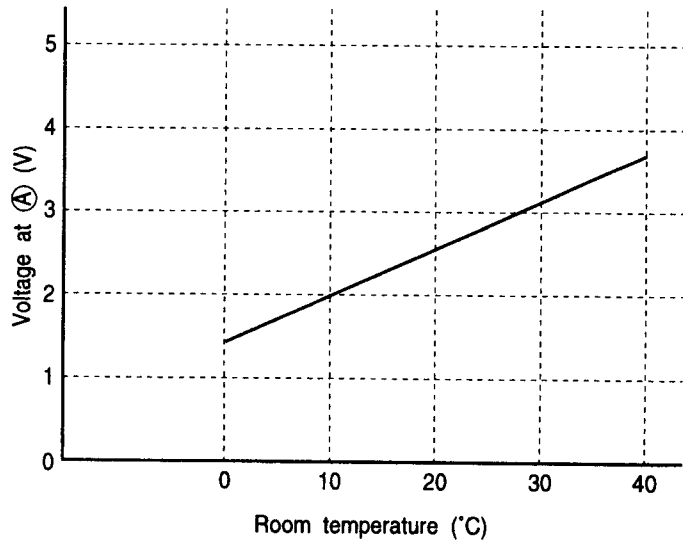

Fig. 6-2
The voltage at (A) depends on the room temperature as shown in Fig. 6-2.